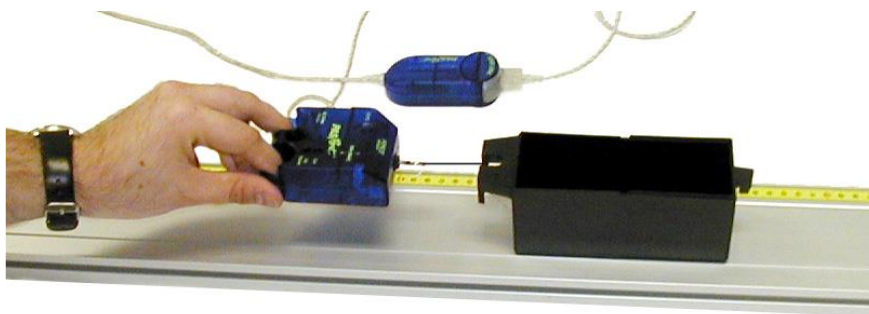

Figure 2: Experiment set up
5. Set up the equipment as shown in the figure 2. Place the track on a flat, horizontal surface.